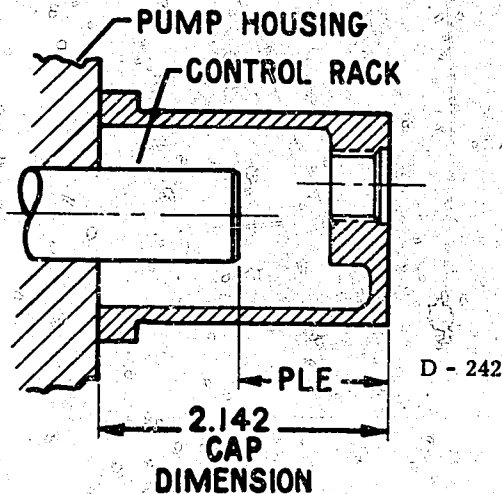

FIGURE 1 - APE 6BB
- 1.5 Figures 1 and 2 illustrate the "PLE" dimension and control rack protection cap for APE 6BB and APE 8V pumps.